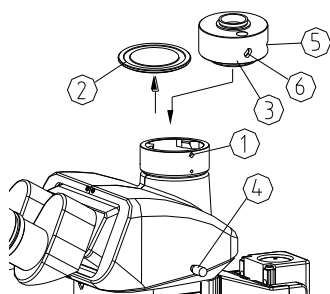

Fig. 23
1) Loosen the lock screw① of trinocular head, and take out the dust-cover② (See Fig. 23).
2) Take down the two dust-covers of the CTV adapter③. Insert the CTV adapter into the trinocular head as shown in the figure and screw down the lock screw①.
3) Connect the CCD or camera to the adapter ③.
4) For binocular observation, after the image is clear, pull the light path selecting pole ④ to the outermost, to observe the image. If the image is not clear, loosen the lock screw ⑤, and adjust the focusing screw ⑥ until the image is clear, then tighten the lock screw ⑤.